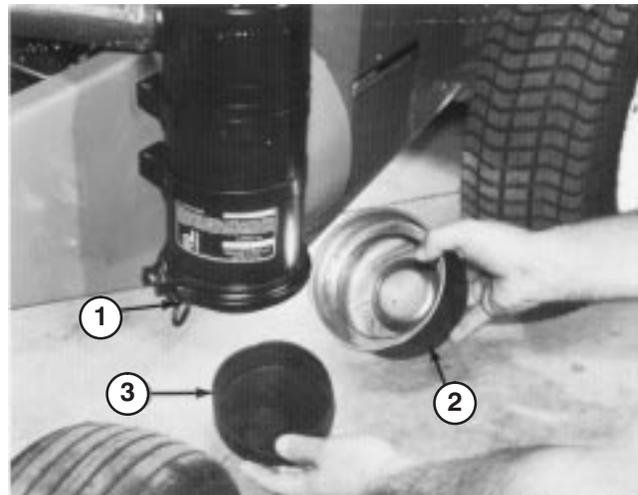

Figure 44
1. Loosen thumb screw until dust cup and baffle can be removed (Fig. 44). Separate dust cup and baffle.